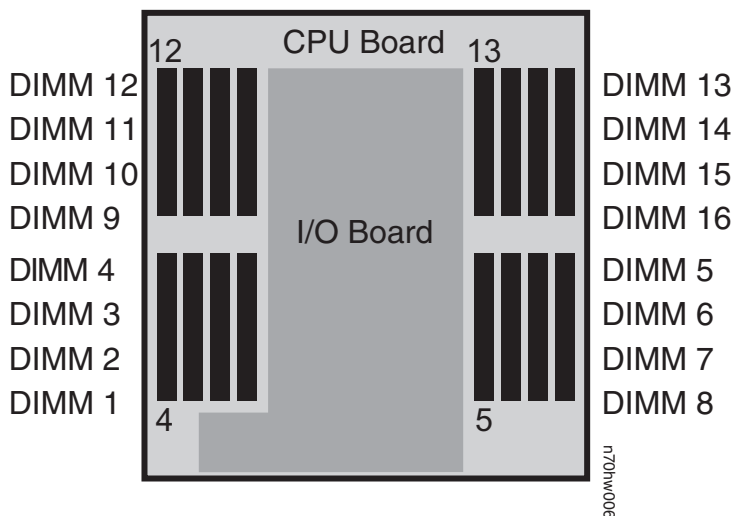

Figure 26. DIMM layout
2. Locate the DIMM that you want to remove. See Figure 26 on page 58 for DIMM locations.